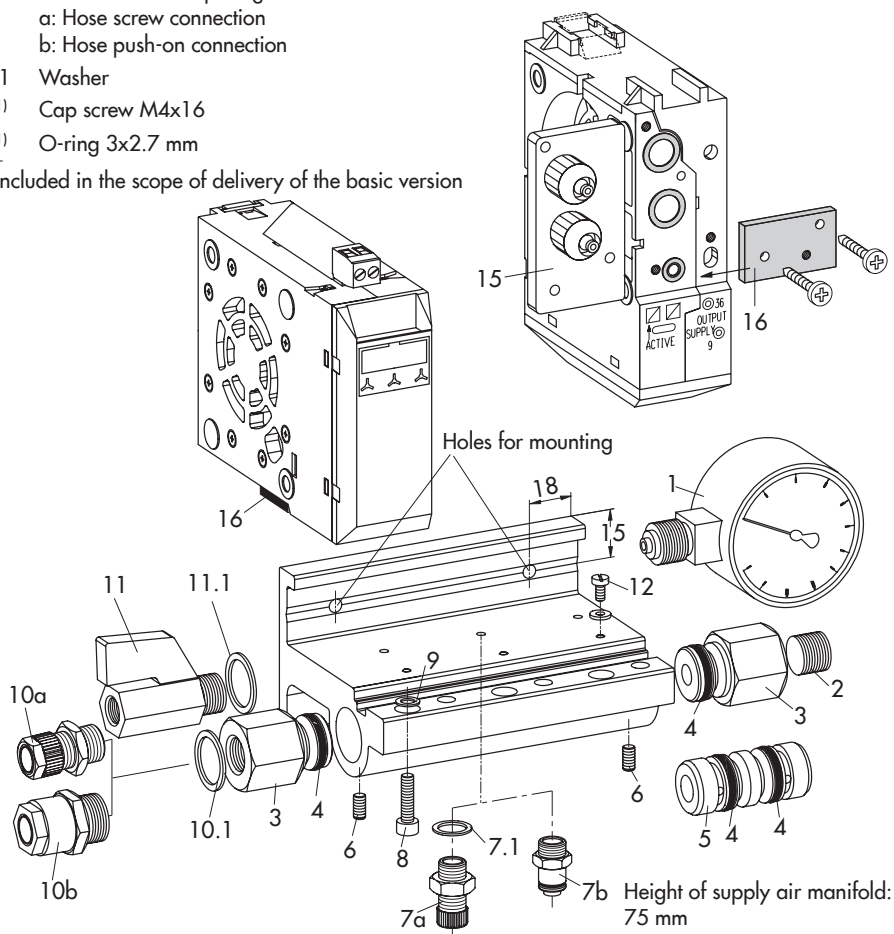

Fig. 4: Exchanging the connecting plate in the converter (top) · Assembling the supply air manifold (below)
See Fig. 4 on page 14.
The manifold (Fig. 4) is available as an accessory and provides a common air supply for several Type 6111 i/p Converters.
- Place seals (4) on the outer grooves of the coupling (5).
- Screw in grub screws (6) to fasten the parts together.
- Attach fastening screws for Type 6111: Insert cap screws (8) from below into the holes in the connecting rail and push on O-rings (9) from the top to prevent the screws from falling out.
- Unscrew the original connecting plate (15) from the bottom of the converter and replace it with the black connecting
plate (16) using the two 3x10 mm screws included in the accessories (Fig. 4, top).
- Slightly tilt the converter upwards and place it on the manifold already mounted (7.1). Press the converter down and secure it with the fastening screw (8).
Item number in parentheses (x). See Fig. 4 on page 14.